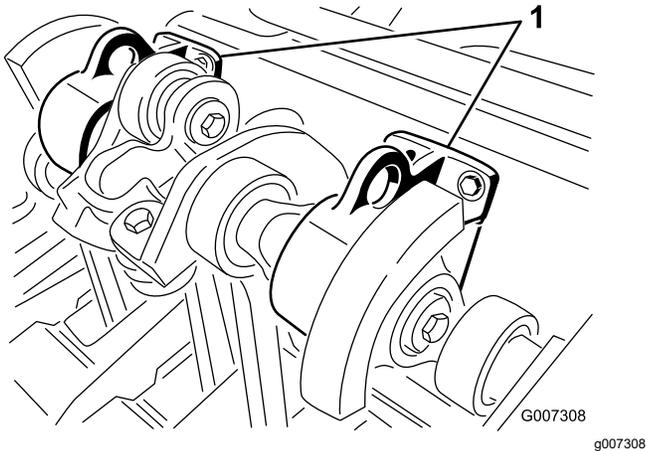

Figure 27
**Note:** If available, use a hoist to lift the rear of the machine. Use the eyelets in the coring head bearing housings as hoist attachment points (Figure 27).